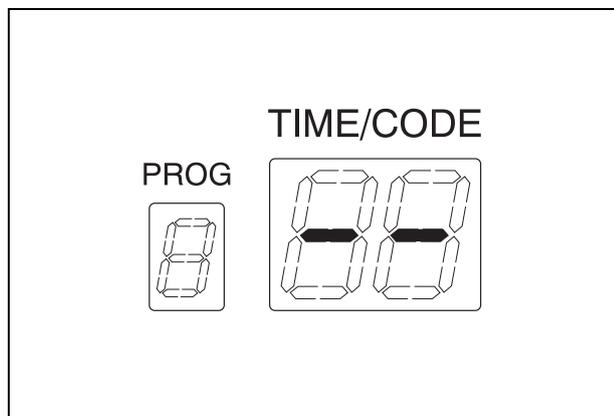

Figure 7.96
16. Rinse the alcohol supply line by performing the alcohol flushing process on the subcontrol panel. Check that the sterile water in the container is decreasing as the process progresses. The process ends automatically in three minutes (see Figure 7.96).
18. Remove rinsing water from inside the line and fill the line with alcohol by performing the alcohol flush process on the subcontrol panel. The process ends automatically in three minutes (see Figure 7.96).